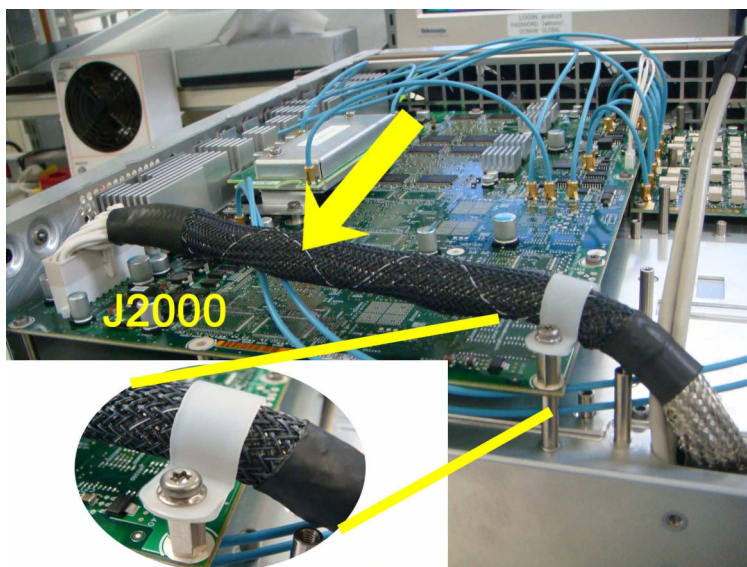

Figure 20: Cable post on the AWG1G board (2 CH)
3. Remove the screw securing the cable post to the AWG1G board. (See Figure 20.)